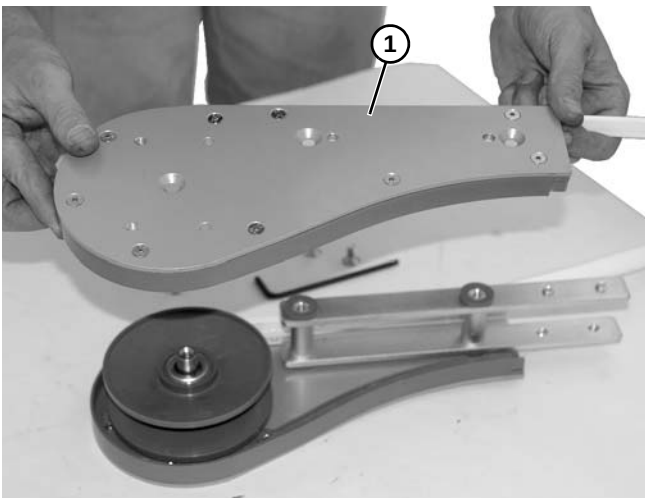

Figure 70
2. Remove the head plate (**Figure 70, item 1**) from the idler end.